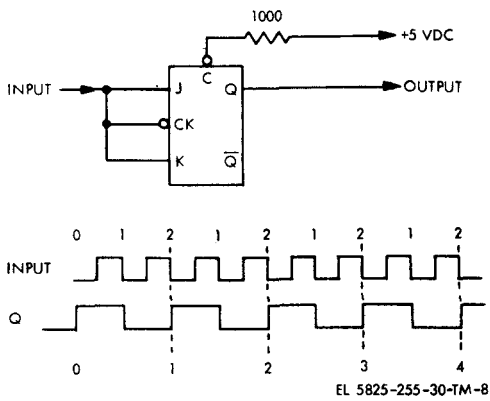

Figure 2-8. Divide by 2 Counter and Waveform.
a. *TCXO*. The TCXO is a precision frequency reference source. It supplies 3.0 MHz + 3 Hz over a - 45°C to + 85°C temperature range. The TCXO uses the regulated + 5 v dc and + 20 v dc as input power. b. *Fixed Dividers* (fig. 2-8 through 2-11). The fixed dividers consist of three dividers, a divide-by-30 counter, a divide-by-200 counter, and a divide-by-98 count-
. *TCXO*. The TCXO is a precision frequency reference source. It supplies 3.0 MHz + 3 Hz over a - 45°C to + 85°C temperature range. The TCXO uses the regulated + 5 v dc and + 20 v dc as input power. . *Fixed Dividers* (fig. 2-8 through 2-11). The fixed dividers consist of three dividers, a divide-by-30 counter, a divide-by-200 counter, and a divide-by-98 counter.